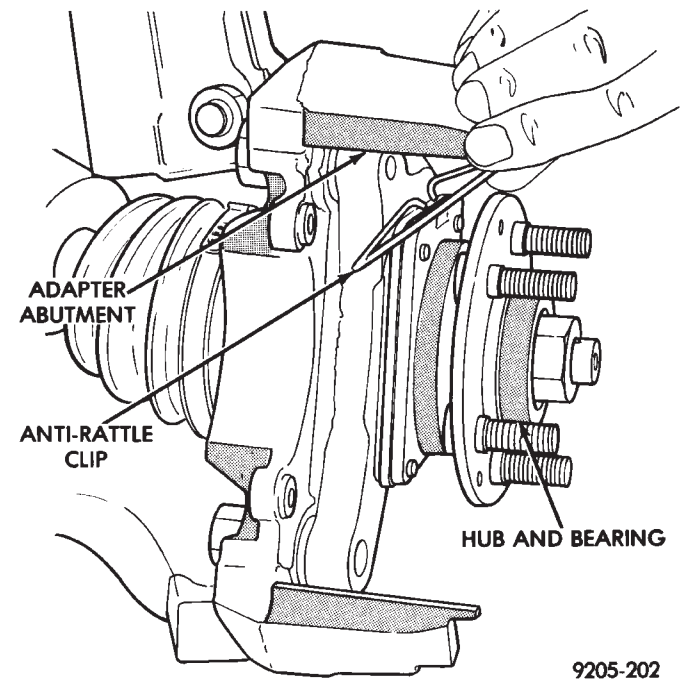

Fig. 8 Remove Or Replace Anti-Rattle Clip
(11) Remove the anti-rattle clip from the top adapter abutment (Fig. 8).